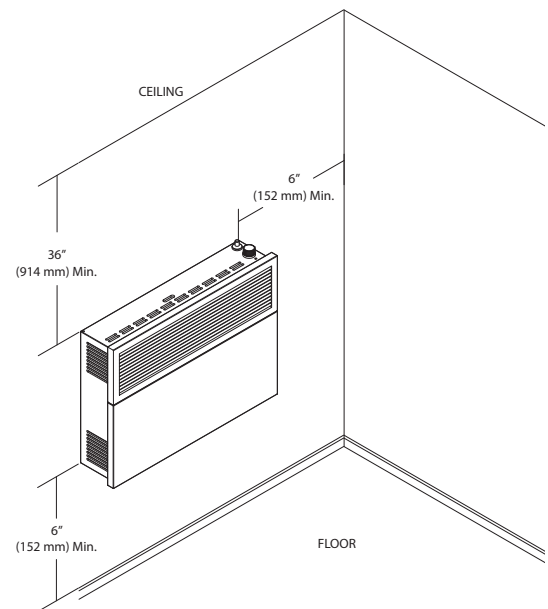

Figure 4
1. Draw the position of the hole for the air-vent intake pipe, taking into account the minimum clearances mentioned in figure 4. See dimensions of the square hole "D" and height to the center "C" in table 1 and figure 5 for the different models. Height "C" is the minimum recommended.